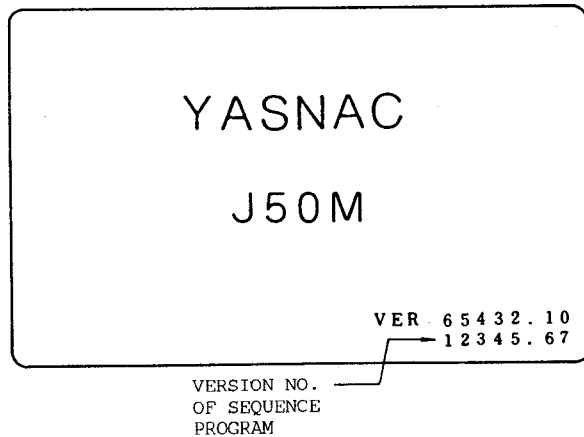

Fig. 9.30
The registered version number is displayed as shown in Fig. 9.30, upon applying power to the NC system.
- (c) Key-in a comment in 10 characters or less. The keys shown shaded in Fig. 9.30 are usable.